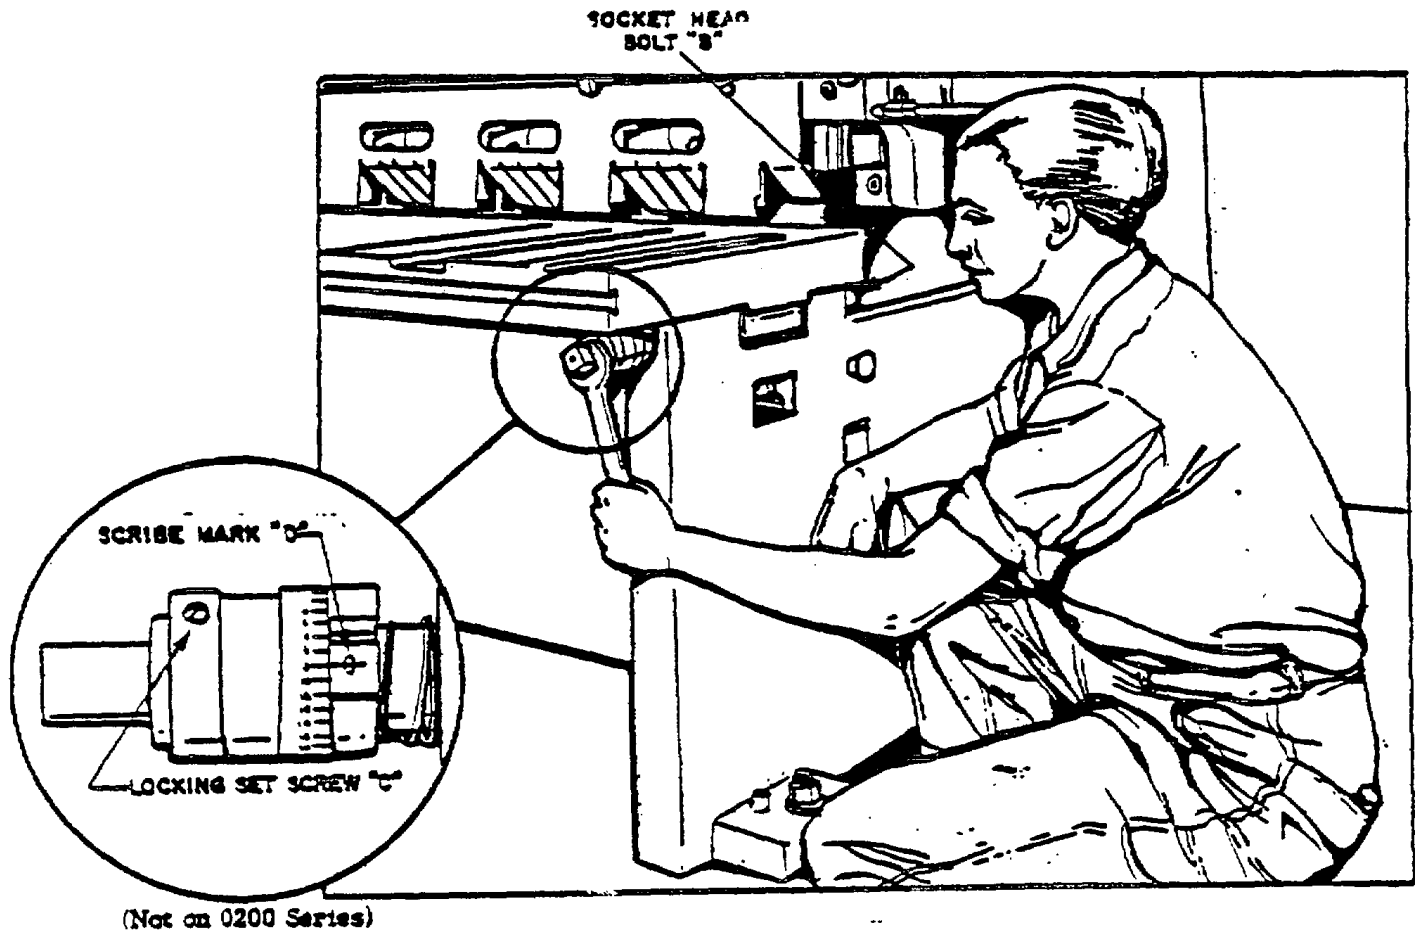

Figure 14. Adjusting the Blade clearance
To adjust blade clearance for the first time, loosen Socket Head Bolt (B) (Figure 14) on each end of the table. Jog the ram down until the blades intersect about 1" from the left end. Using the Blade Clearance Adjustment (on 0200 series, Socket Head Cap Screw), move the left end of the table and lower blade to the desired clearance. Lock the table with Socket Head Bolt (B). Further jog the upper blade (making certain there is no interference) until the right end of the blades intersect approximately 1" from the right end. Adjust this end of the table and lower blade to the exact same clearance as the left end. Lock this adjustment.
To calibrate the Blade Clearance Indicators (Series 0300, 0400, 0600, 0800, 1000), simply loosen socket headset screw "C" (Figure 14) and rotate the indicator by hand until the numerals on the indicator are the same as the blade clearance that has just been set at each end of the blade. It should coincide with scribe mark (D) (Figure 14). Retighten socket head set screw "C". This calibration must be done on each of the two indicators. Calibrations on the indicators read in thousandths. If settings less than 0.004" are to be used, use a feeler gauge to obtain accurate settings.